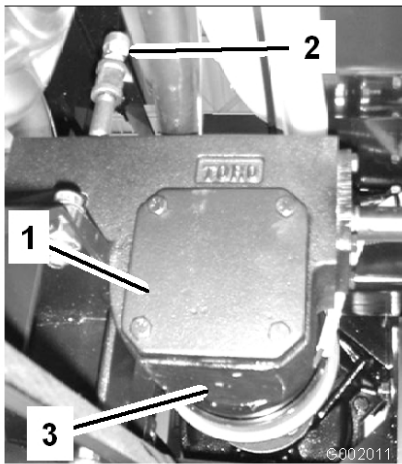

Figure 70
2. Place a pan under the drain plug on the pump drive gear box (Figure 70).
- Remove the fill plug and drain plug (Figure 70), allowing the oil to drain into the pan.